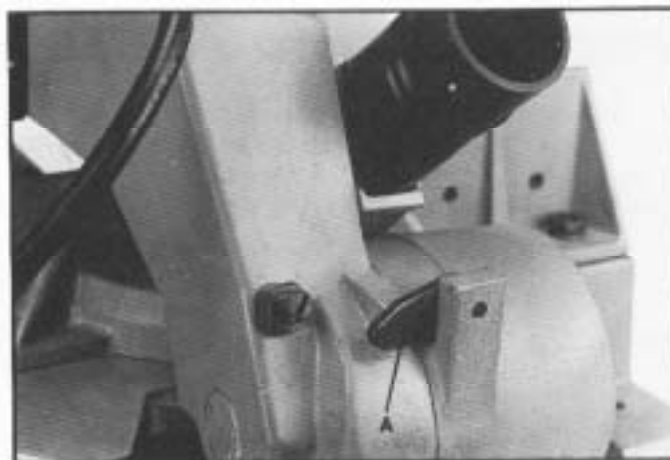

Fig. 17
When transporting the miter box, the cuttinghead should always be locked in the down position. This can be accomplished by lowering the cuttinghead and moving the locking lever (A) to the locked position, as shown in Fig. 17. **NEVER CARRY THE MITER BOX BY THE SWITCH HANDLE OR TABLE CONTROL HANDLE AS THIS MAY CAUSE MISALIGNMENT. ALWAYS LIFT THE MACHINE BY THE BASE.**